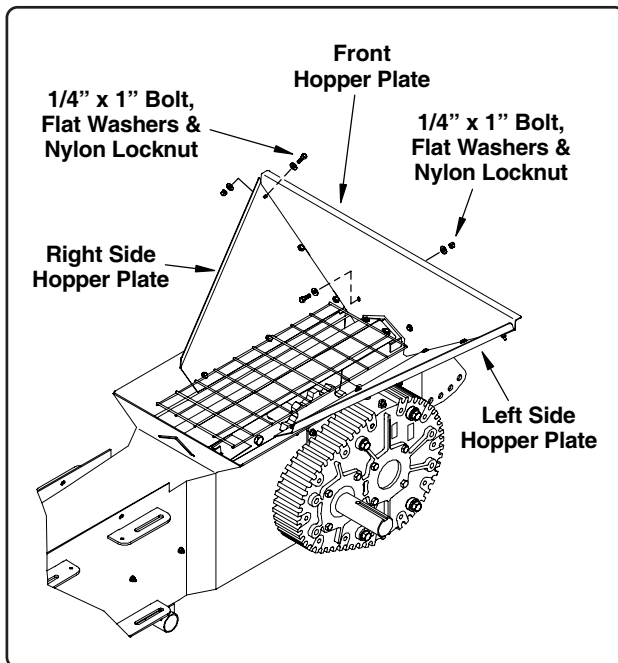

Fig. 26
1. Install the front hopper plate to the inlet boot using two (2) 1/4" x 1" bolts, four (4) flat washers and two (2) nylon locknuts (See Fig. 26).
2. Attach the left and right side hopper plates to the front plate and to the inlet boot as shown (the side plates will attach to the top side of the front plate). Secure each hopper plate using five (5) 1/4" x 1" bolts, ten (10) flat washers and five (5) nylon locknuts.